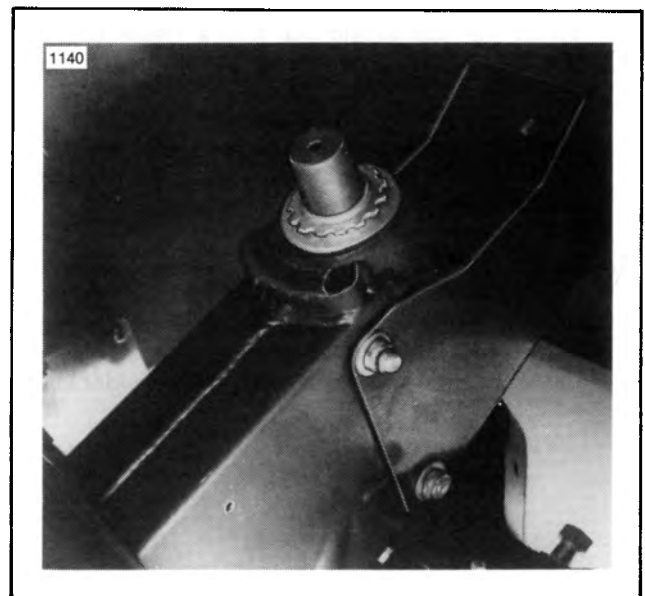

Figure 2-77. Upper Bracket Seat
5. See Figure 2-77. Remove the bearing adjuster and remove the fork stem assembly. See Figure 2-68. Remove the dust shield and bearing (20) from the top of the steering head.